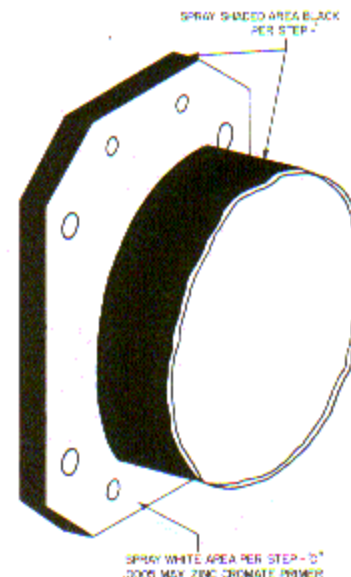

Figure 6-10. Proper Method of Painting Cyl. Flange
c. Spray a very light coat of zinc chromate primer (.0005 max. thickness) on the cylinder flange (Figure 6-10). If the correct amount of paint has been applied the color of the paint will be green with a yellowish tint and the metal will show through. If the paint is too thick the color will be a zinc chromate yellow.
- d. Mask off the flange area shown in figure 6-10 and proceed to paint the cylinder with a black phthalate resin type paint, properly thinned with Toluol or equivalent. Avoid paint "pockets" and "runs".